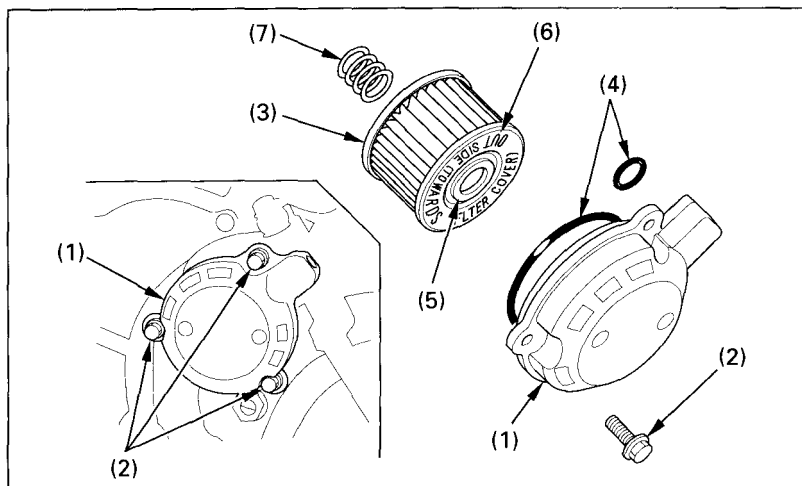

Fig. 4-14 (1) Oil filter cover
3. Remove the oil filter cover (1) (Fig. 4-14) by removing the bolts (2). Let the remaining oil drain out. Discard the oil filter (3).
4. Check that the oil filter cover O-rings (4) are in good condition and then install a new oil filter. Use only the Honda genuine oil filter or a filter of equivalent quality specified for your model. Using the wrong Honda filter or a non-Honda filter which is not of equivalent quality may cause engine damage.
5. Install the filter with the rubber seal (5) facing out, away from the engine. You will see the "OUTSIDE (TOWARDS FILTER COVER)" mark (6) on the filter body, near the seal.